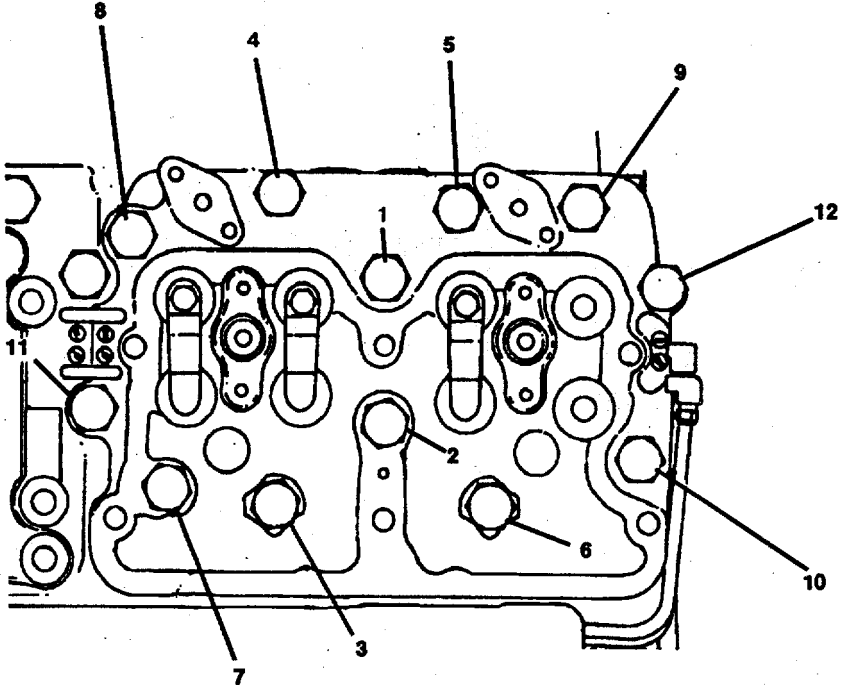
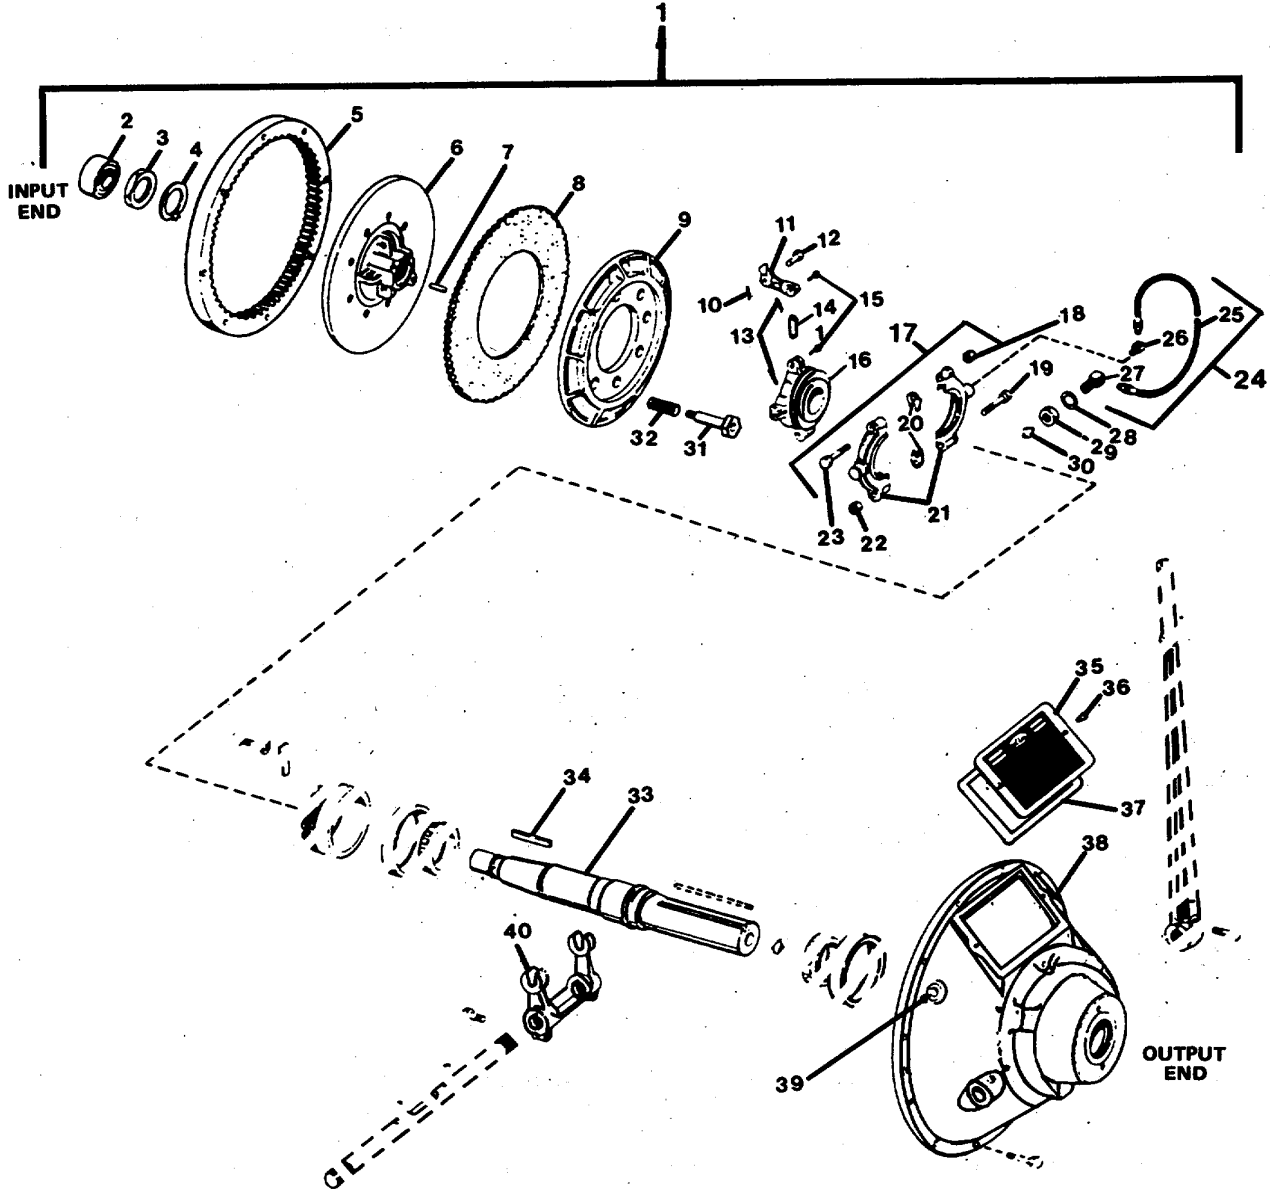

FIGURE 2-54. Cylinder Head Torque Sequence.
FIGURE 2-55. Power Take-Off Assembly Repair.
of installation. (See FIGURE 2-54)
- a. Install head gasket (6) on dowel pins (located in the block).
- b. Place cylinder head (5) on engine block and align bolt holes with head gasket (6).
- c. Install two guide studs in the cylinder block for each cylinder head (5).
- d. Install cylinder head (5) over the guide studs and dowel pins.
- f. Use clean oil and lubricate capscrews (3) and both sides of washers (4). Allow excess oil to drain from capscrew threads.
- g. Install capscrews (3) and washer (4); torque in the sequence shown in FIGURE 2-54 .
- (1) Tighten to 25 ft-lb. torque.
- (2) Tighten to 100 ft-lb. torque.
- (3) Tighten to 285 ft-lb. torque.
- i. Install preformed packing (7).
- j. Install fuel crossover connection (1).
- k. Install fuel crossover bolts (2). Tighten to 35 in-lb torque.
**2-42 Replace/Repair Power Take-Off Assembly. (FIGURE 2-55)**
- a. Support clutch housing (38, FIGURE 2-55) on work bench with wooden blocks with INPUT END facing upwards.
- b. Using a standard bearing puller, remove pilot annular ball bearing (2) from the clutch shaft (33).
- c. Remove hexhead nut (29) and lockwasher (28) at point (39), securing tube elbow (27) with grease lubrication fitting (30) attached. Push the tube elbow (27) with nonmetallic hose assembly (24) attached into clutch housing (38).
- d. Straighten bent portion of lockwasher (4) from hub nut (3).
- e. Remove hub nut (3) and lockwasher (4) from clutch shaft (33). Discard hub nut and lockwasher.
- f. Remove two hexhead capscrews (36) securing instruction plate (35) and gasket (37) to clutch housing and remove plate and gasket.
- g. By reaching through clutch housing (38) instruction plate (35) opening, remove two of the eight machine bolts (31) and helical compression springs (32) (180° apart) from the floating plate (9) and hub and back plate (6).
- h. Using a conventional gear puller with threaded legs for 5/8-11 tapped holes, pull the clutch assembly (6 through 23) from the clutch shaft (33).
- (1) Install the puller so the threaded legs screw into the 5/8-11 holes from which machine bolts (31) were removed in step g, above.